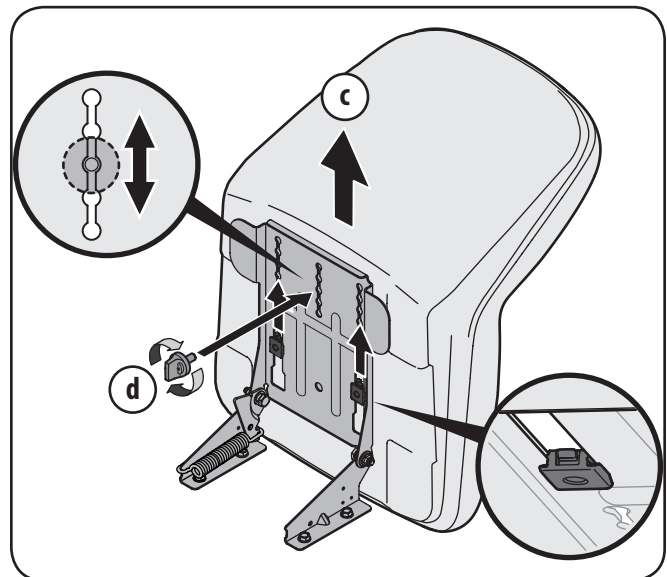

Figure 3-5
3. Slide the seat rearward in the seat pivot bracket (c), lining up the center rear slot in the pivot bracket with the remaining hole in the seat’s base. See Figure 3-5.
Note: Be certain the two seat tabs engage the pivot bracket as shown in the bottom right inset of Figure 3-5.
4. Select desired position for the seat, and secure with the adjustment knob (d in Figure 3-5) removed earlier.
5. To adjust the position of the seat, remove the adjustment knob on the bottom of the seat. Slide the seat forward or backward as desired. Reinstall the adjustment knob. See Figure 3-5.